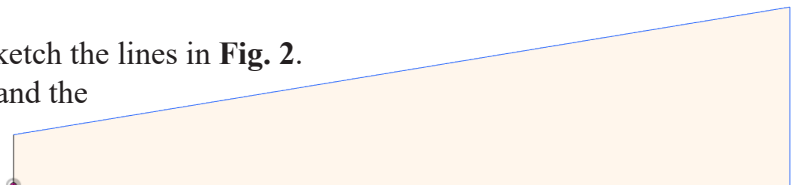

Fig. 2
Step 1. On the Solid tab **SOLID** click **Create Sketch** in the Sketch area of toolbar and click **Right plane** in canvas, Fig. 2.
Step 2. Click **Line** (L) on the toolbar.
Step 3. Starting at the **Origin** sketch the lines in Fig. 2. Keep the side lines vertical and the bottom line horizontal.